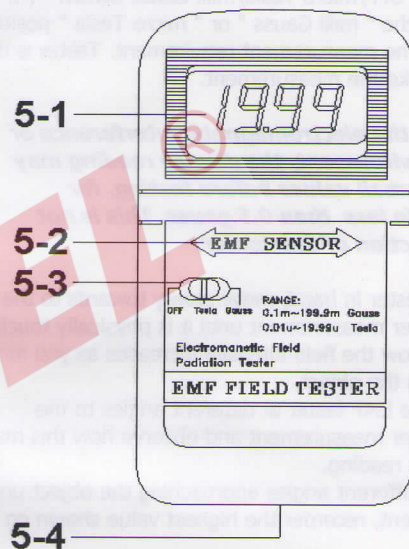

Fig. 1
- 1) Place the " OFF/micro Tesla/milli Gauss Switch " (5-3, Fig. 1) to the " milli Gauss " or " micro Tesla " position according the measurement requirement. Tester is now ready to take the measurement.
- 2) Open the Battery Cover (5-4, Fig 1) at the back of tester and remove the battery.